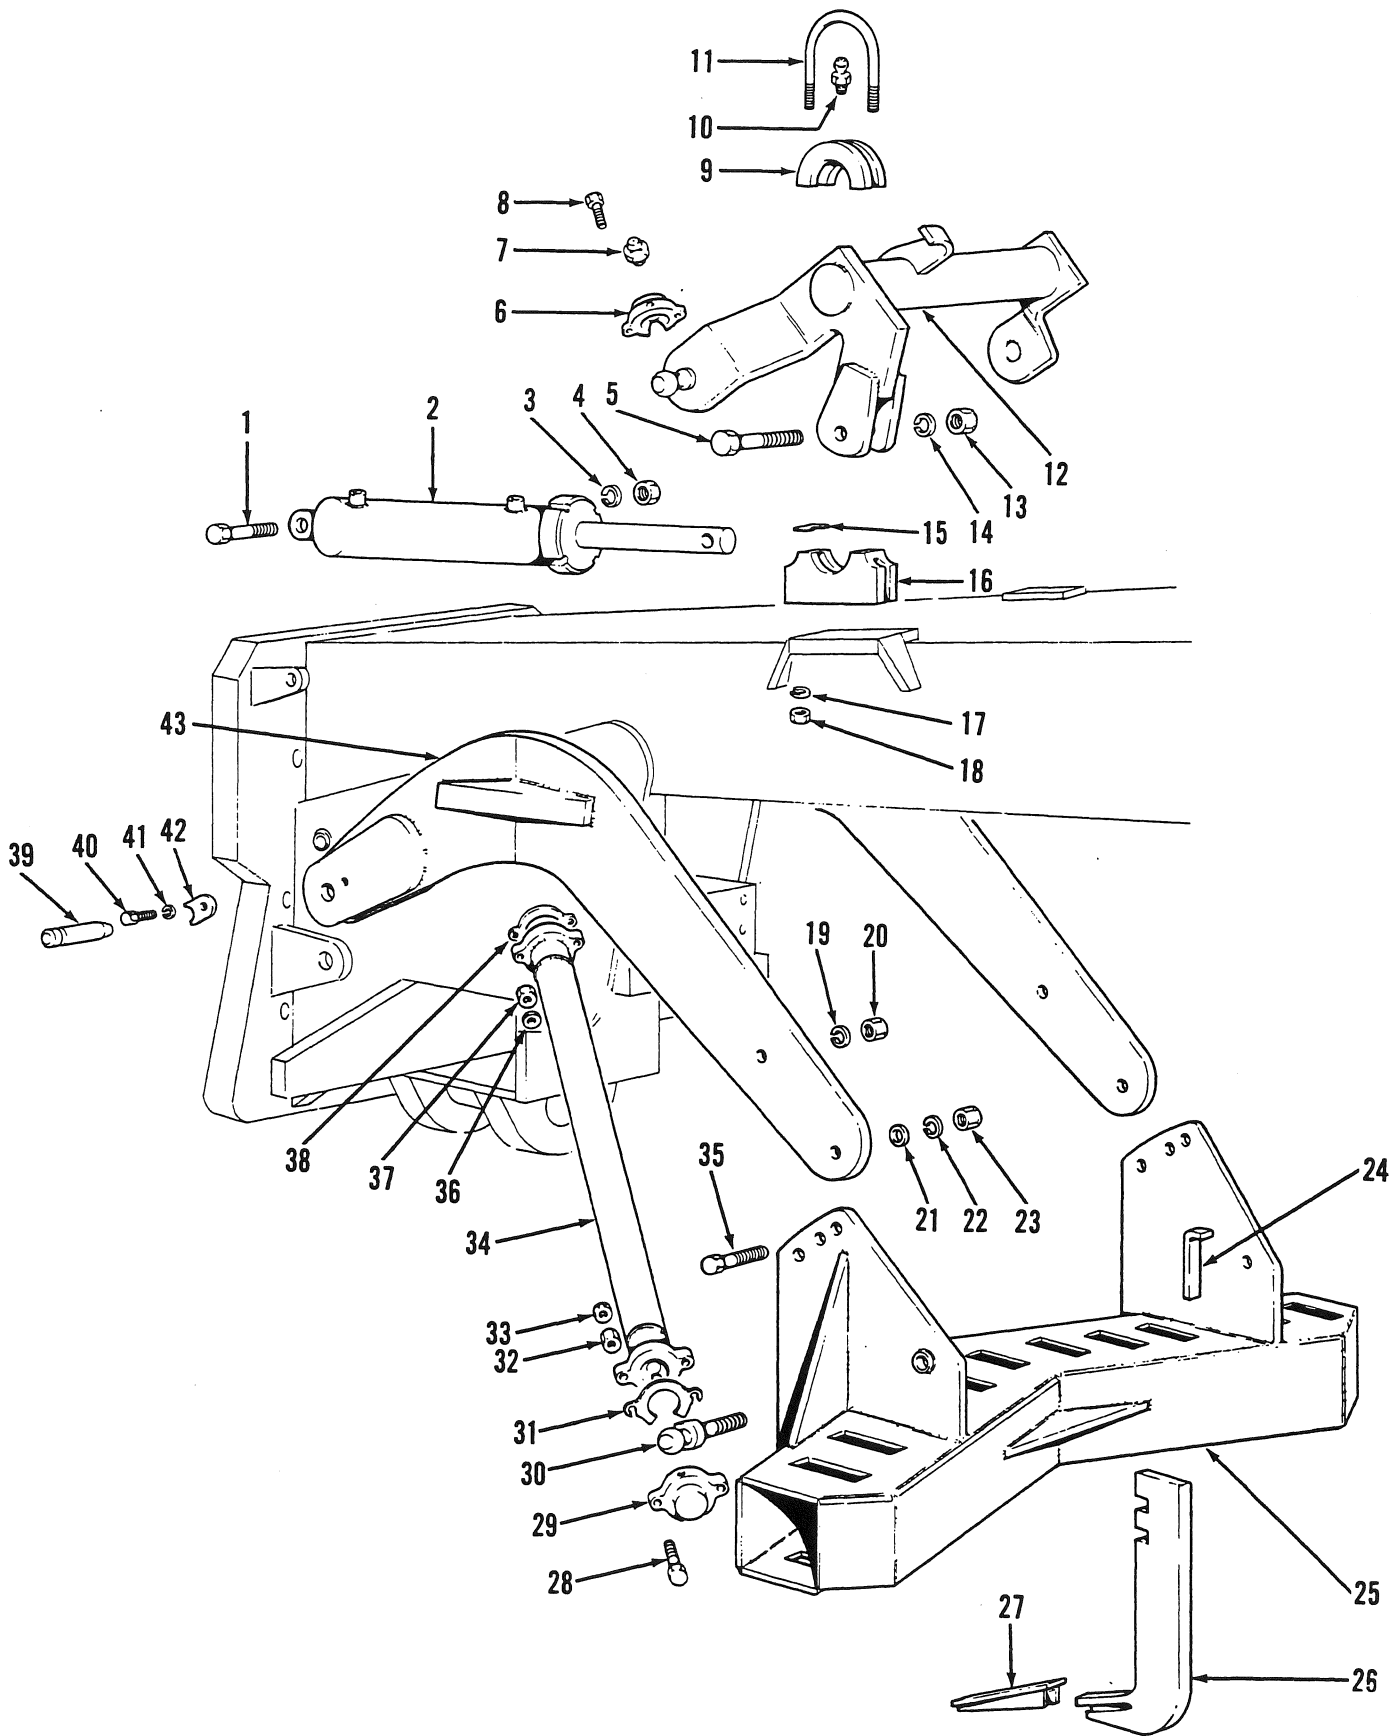
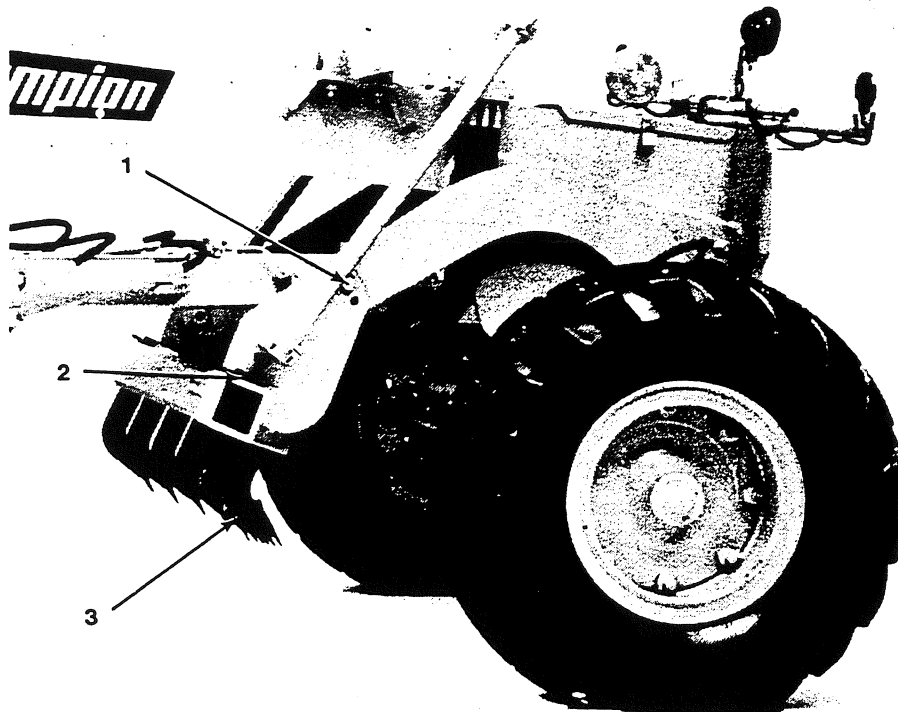

Figure 1
Figure 2
1. Removal and Disassembly (Fig. 1).
KEY TO FIG. 1
12. Assembly and Installation (Fig. 1). Using suitable lifting tackle, hoist the scarifier box assembly (25) and position under the grader frame neck.
13. Using a chain hoist, install the two drawbars (43), and retain to the scarifier box side plates with the hexagon head bolts (35), nuts (20) and lockwashers (19). Install the lower ball studs (30), nuts (23), lockwashers (22) and flatwasher (21). DO NOT tighten the hardware yet.
14. With the aid of the lifting tackle, maneuver the scarifier assembly until the clevis of the drawbars engage with the lugs on the nose plate. Install the two draw pins (39), tapered end first.
15. Liberally apply grease onto the bearing surfaces of the two pillow block lower halves (16). Place the pillow block lower halves into position on their brackets.
16. Install the arm assembly onto the pillow block lower halves. Install the pillow block shims (15) (six per block).
17. Liberally apply grease onto the bearing surfaces of the two pillow block upper halves (9). Install the pillow block upper halves, and secure with the U-bolts (11), nuts (18) and lockwashers (17).
18. Liberally apply grease onto the bearing surfaces of the ball caps (6 and 29), and to the mating parts of the two lift links (34).
19. Install the ball cap shims (38), and engage the lift link with the ball stud on the arm assembly. Install the ball cap and retain with the two hexagon head bolts (8), nuts (37) and pal nuts (36). Repeat this step for the other lift link.
20. Install the ball cap shims (31), and engage the lift link with the ball stud on the scarifier box assembly. Install the ball cap and retain with the two hexagon head bolts (28), nuts (32) and pal nuts (33). Repeat this step for the other lift link.
25. Install the tooth shanks (26), and retain with the wedges (24). Remove the lifting tackle.
26. Adjustments (Figs. 1 and 2). The pitch of the scarifier (1, Fig. 2) can be adjusted by removing the hexagon head bolts (35, Fig. 1), nuts (20, Fig. 1) and lockwashers (19, Fig. 1), aligning the drawbars with an alternative hole, and replacing the hardware.
27. For tooth working depth adjustment (2, Fig. 2), remove the wedges (24, Fig. 1) and move the tooth shank (26, Fig. 1) to an alternative notch engagement; then replace the wedges.
28. Worn tooth tips (27, Fig. 1) can be removed by drifting on the tip rear face (3, Fig. 2). Install new tips onto the shanks, and drive into position.